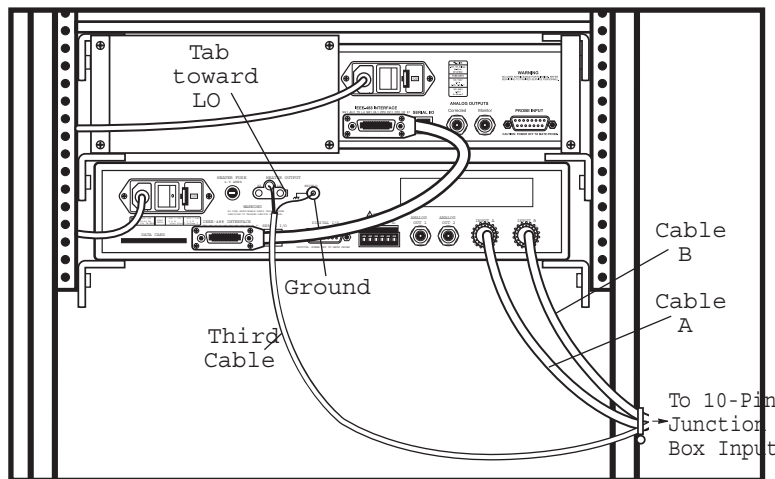

Figure 4-7. Typical Model 340 connections to the 75013 SCSM
1. Connect all cables listed in Table 4-4 (see Figure 4-7).